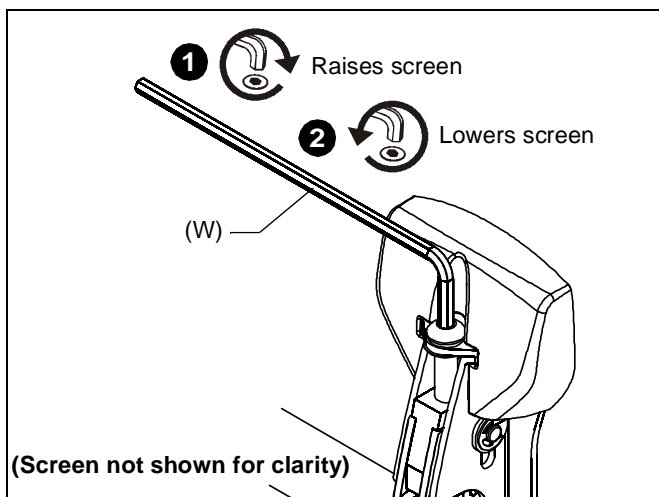

**Figure 13**
1. Using the provided 1/2" wrench (X), turn plumb adjustment bolt to the left to adjust screen away from the wall. (See Figure 13)
2. Using the provided 1/2" wrench (X), turn plumb adjustment bolt to the right to adjust screen toward the wall. (See Figure 13)